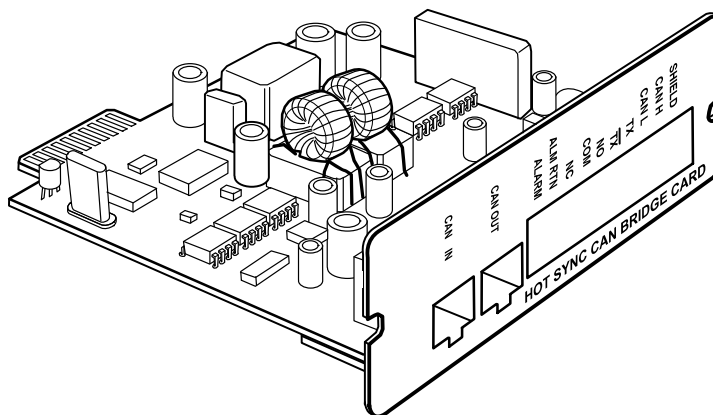

Figure 67. Powerware Hot Sync CAN Bridge Card
3. Unpack the Powerware Hot Sync CAN Bridge Card and verify that the card was not damaged during shipment (see Figure 67).